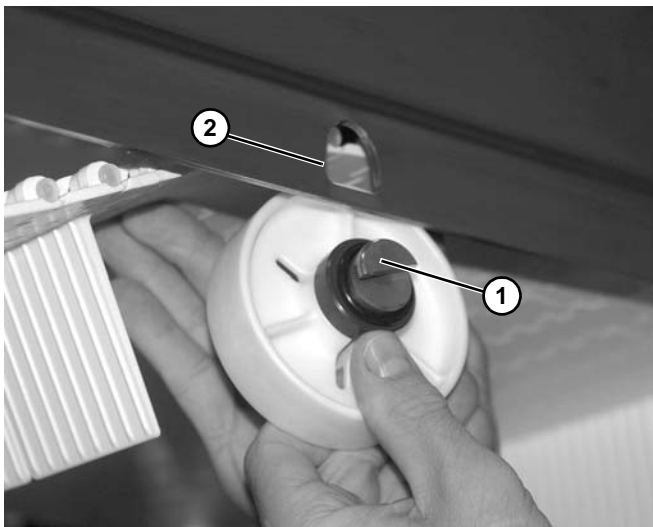

Figure 80
1. Remove the notched end of the return shaft (Figure 80, item 1) from the small hole (Figure 80, item 2) in the inside of the conveyor frame.